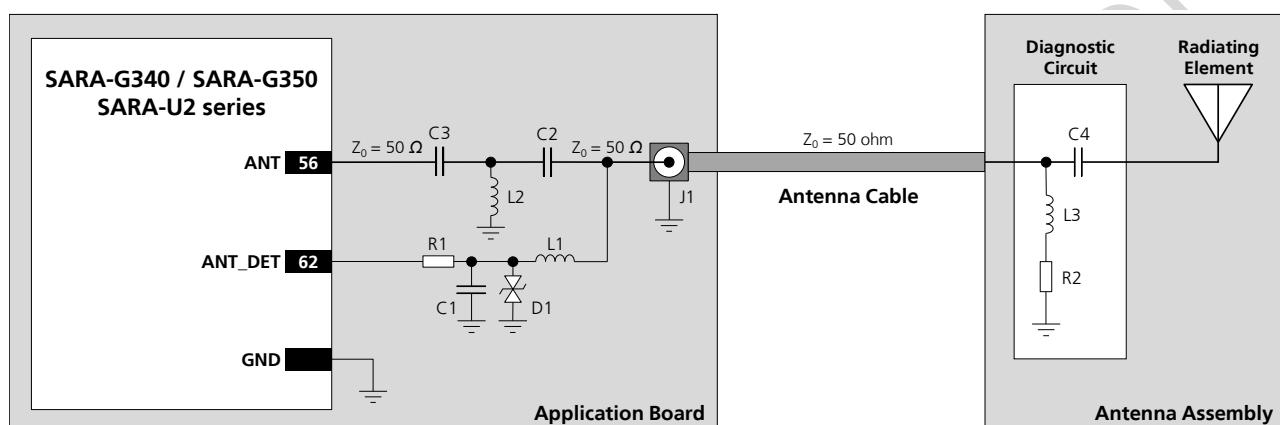
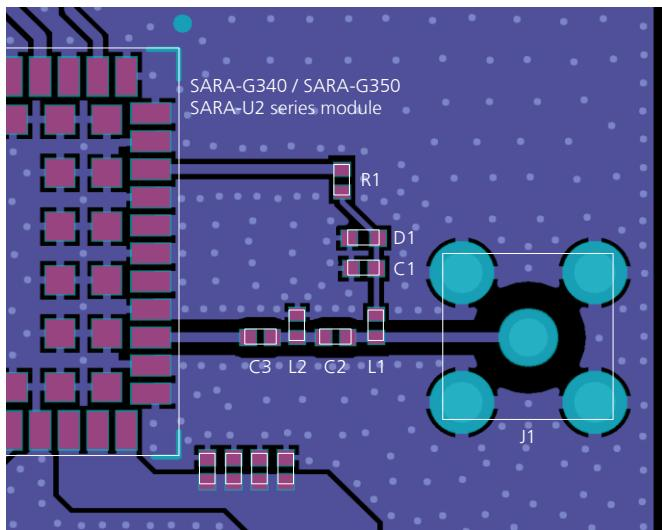

Figure 52: Suggested schematic for antenna detection circuit on application board and diagnostic circuit on antenna assembly
Figure 53: Suggested layout for antenna detection circuit on application board
Figure 52 and Table 26 describe the recommended schematic and components for the antenna detection circuit to be provided on the application board for the diagnostic circuit that must be provided on the antenna assembly to achieve antenna detection functionality.
The antenna detection circuit and diagnostic circuit suggested in Figure 52 and Table 26 are here explained:
- Additional components (R1, C1 and D1 in Figure 52) are needed at the **ANT\_DET** pin as ESD protection
- Additional high pass filter (C3 and L2 in Figure 52) is provided at the **ANT** pin as ESD immunity improvement for SARA-U2 modules (a series  $0\ \Omega$  jumper can be mounted for SARA-G340 and SARA-G350 modules instead of the high pass filter, as no further precaution to ESD immunity test is needed).
The DC impedance at RF port for some antennas may be a DC open (e.g. linear monopole) or a DC short to reference GND (e.g. PIFA antenna). For those antennas, without the diagnostic circuit of Figure 52, the measured DC resistance is always at the limits of the measurement range (respectively open or short), and there is no mean to distinguish between a defect on antenna path with similar characteristics (respectively: removal of linear antenna or RF cable shorted to GND for PIFA antenna).
Figure 53 describes the recommended layout for the antenna detection circuit to be provided on the application board to achieve antenna detection functionality, implementing the recommended schematic described in the previous Figure 52 and Table 26.
The antenna detection circuit layout suggested in Figure 53 is here explained: